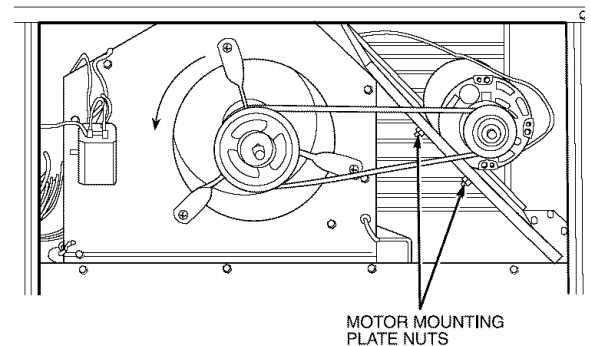

Fig. 40 — Belt-Drive Motor Mounting
2. Loosen the belt by loosening the fan motor mounting nuts. See Fig. 40.